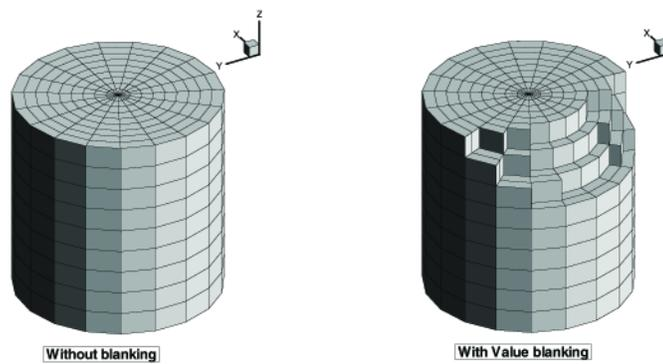

Figure 7-4. Examples of plots where Surfaces to Plot has been set to "Exposed Cell Faces" with (left) and without (right) value-blanking.
- **Exposed Cell Faces (default)** - This setting is similar to the "Boundary Cell Faces" setting, unless value blanking is active. When value blanking is used, the outer cell faces between blanked and non-blanked cells and the outer surfaces of the data are drawn. Figure 7-4 shows a plot of a volume zone with Surfaces to Plot set to "Exposed Cell Faces" with and without value blanking. See Chapter 19: "Blanking" for information on working with Blanking.